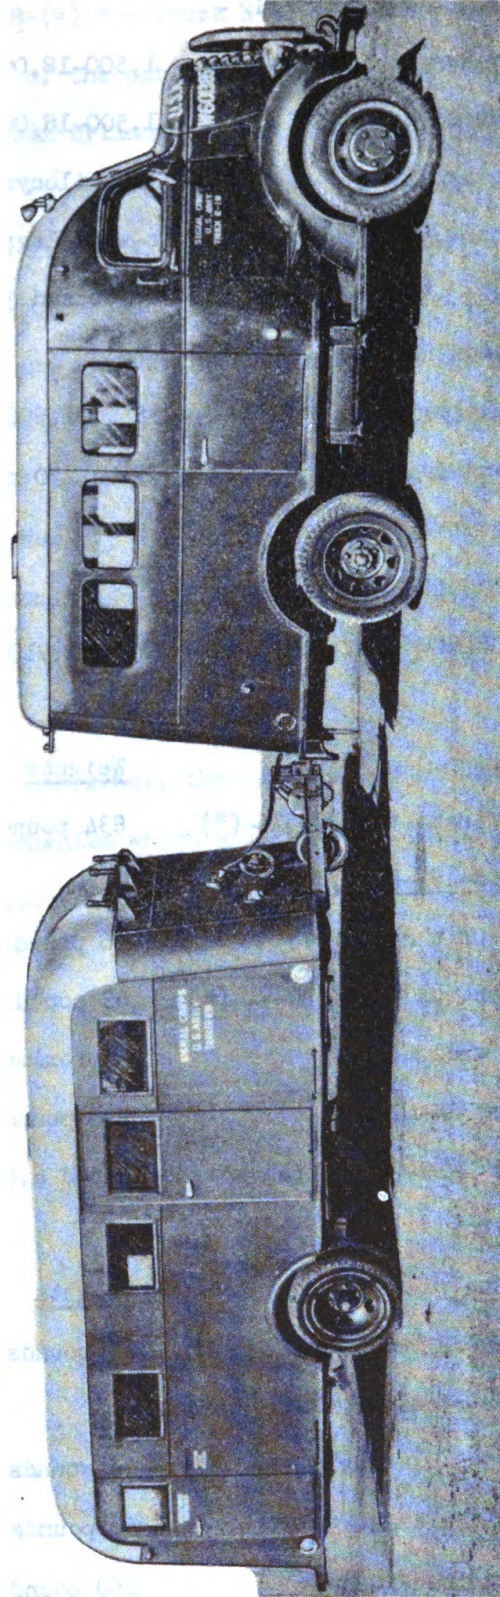

Figure 1. - Radio Set SCR-197-(*) with the Trailer K-19-(*) in position in rear of Truck K-18-(*)
10. PHYSICAL CHARACTERISTICS. - Radio Set SCR-197-(*) is a high-power portable radio station. The transmitting equipment is installed in Truck K-18-(*) and the receiving equipment is installed in trailer K-19-(*). Commercial sources of power are used when available. Gasoline-engine driven power units for both the transmitting and receiving equipment are furnished and used when commercial power is not available. The transmitter may be remotely controlled using voice, tone, or c-w operation from remote positions up to a distance of 7-1/2 miles by means of commercial telephone lines or Wire W-110 lines. During field operations, Truck K-18-(*) tows Trailer K-19-(*) to the receiving location. The trailer is situated at this location and the Truck K-18-(*) proceeds to the transmitting location. Figure 1 shows a complete Radio Set SCR-197-(*) .